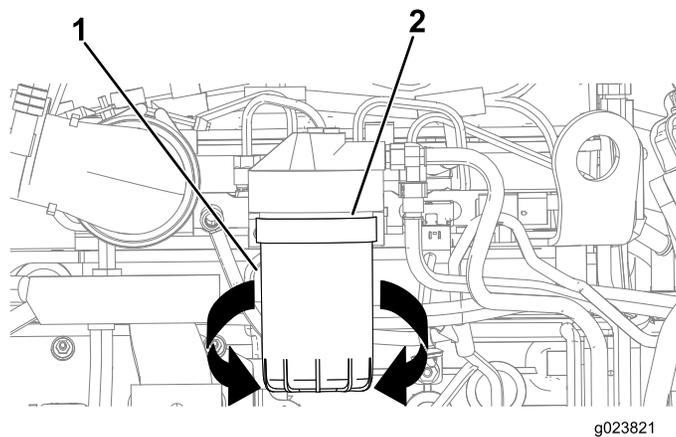

Figure 96
3. Align a drain pan or several rags under the secondary fuel filter and the fuel-filter adapter (Figure 96).
4. Rotate the fuel filter counterclockwise and remove the fuel filter (Figure 96).
7. Align the fuel filter to the fuel-filter adapter, and rotate it clockwise until the seal of the fuel filter contacts the fuel-filter adapter (Figure 96).
8. Hand tighten the fuel filter and additional 1/2 turn (Figure 96).